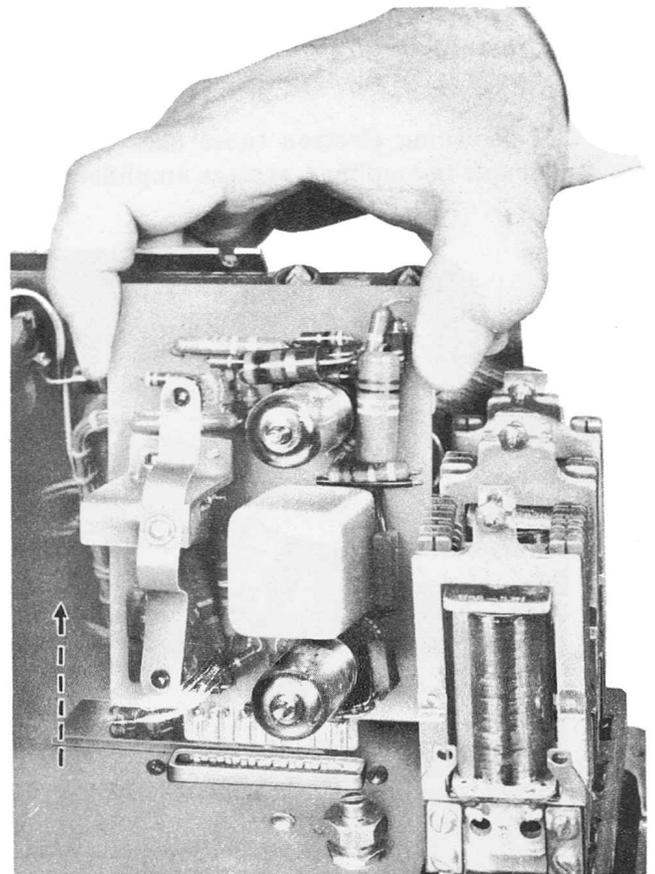

Fig. 5 — Amplifier Removal
3. Grasp amplifier as shown in Fig. 5 and rock gently from side to side while exerting an upward pull.